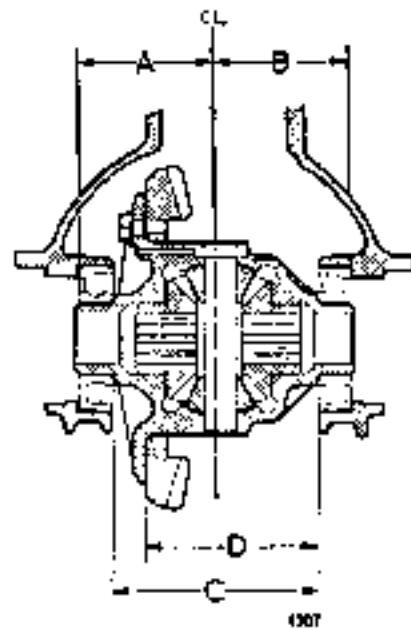

Fig. HH.8
The second series of axles are stamped with 'A', 'B', 'C', and 'D' dimensions as indicated in Fig. HH.8, and the shim thickness necessary to locate the crown wheel correctly is determined by the use of Service tools 18G 191 and 18G 191 A and calculation.
- (1) To assist in the calculations of the thickness of shims to be fitted behind each differential cage bearing variations are indicated by stamped numbers on the carrier adjacent to the bearing holes. The dimensions to be considered are shown in Fig. HH.8, (A) being the distance from the centre-line to the bearing register of the carrier on the left-hand side and (B) the distance from the centre-line to the bearing register of the carrier on the right-hand side. The (C) dimension is from the bearing register on one side of the cage